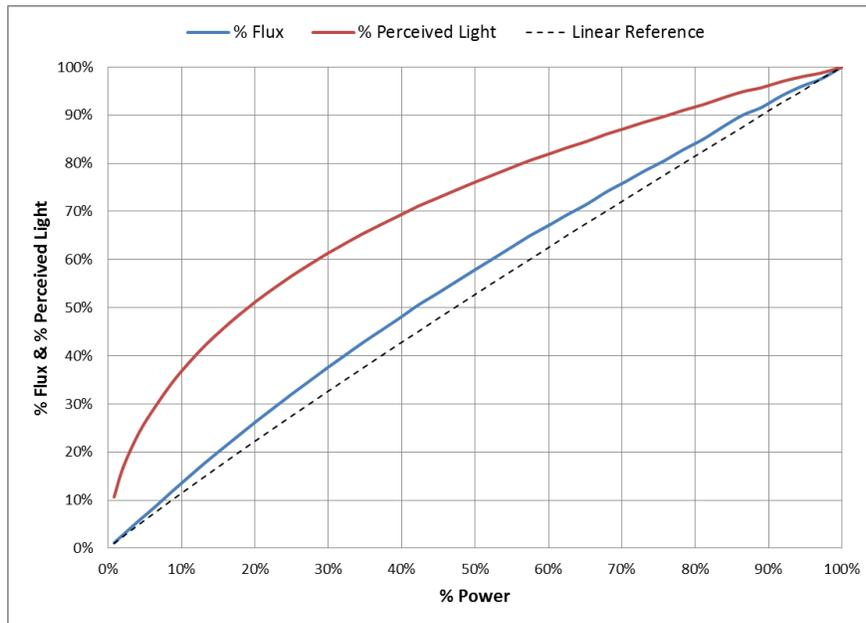

Figure 5: Relative Flux & Perceived Light Level over Dimming Range
light). The equation for determining perceived light is to take the square root of the measured light percentage (e.g. $\sqrt{0.25} = 0.5$). To see a plot of the perceived light versus percent measured light (flux) refer to Figure 5 later in this application note.
- Minimum light level: Some dimming drivers and/or associated controls are only capable of dimming down to a certain light level or percentage of maximum power level. Today, there are only a handful of drivers that can dim below 10% power. High performance drivers can usually dim to 1% power or below. However, depending on the application, dimming to 10% may be acceptable. See Figure 5 as an example of the module power versus percent light output and percent perceived light output.